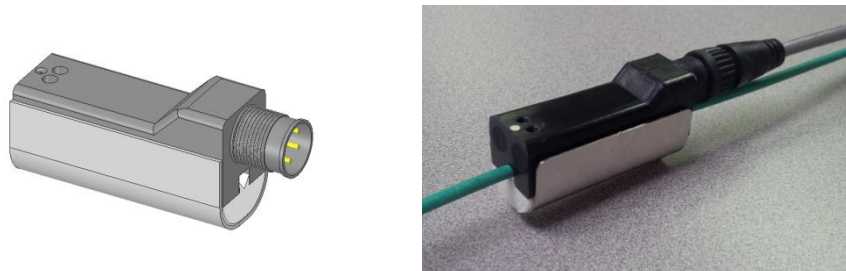

Figure 3: Sensor Module - 3D Views of the Sensor Module Assembly
2) Sensor Module: Each module is comprised of a molded sensor enclosure, a conductor stabilizer, and a curved metallic shield as shown in Figures 3 and 4. The conductor stabilizer is used to wedge the monitored conductor against the surface of the sensing chip. The curved metallic shield is used to amplify internal magnetic fields and protect against external magnetic fields, and also to hold the conductor stabilizer in place. Each sensor is marked with a yellow dot for polarity indication.